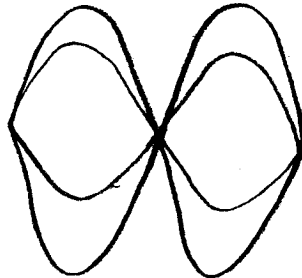

FIGURE 4.
12. Tune screw (E) for maximum oscillator signal.
16. Starting at maximum capacitance, re-adjust screw (E) for Pattern in Figure 4. Scope speed should be approximately 1 ms/cm.